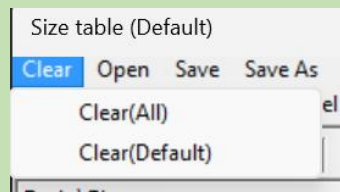

Figure 3-2
2. Clear: Clear the current or all sizes. (Figure 3-2)